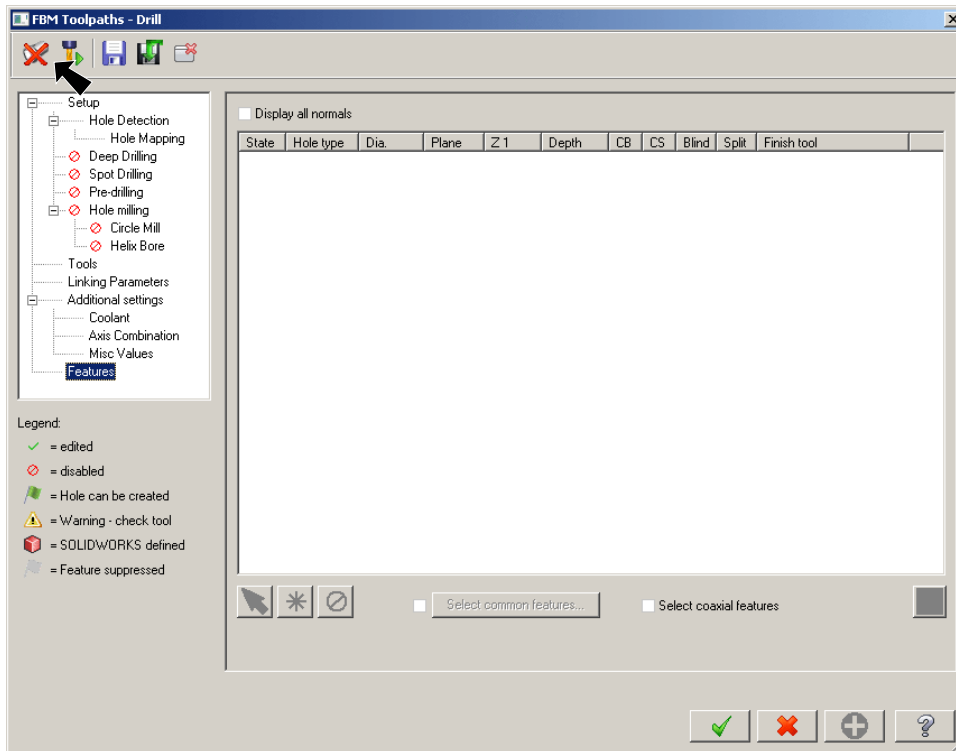

Fig. 106
Step 2. Click the **left Lid solid** and params are all set so just click **Detect** button , Fig. 106.